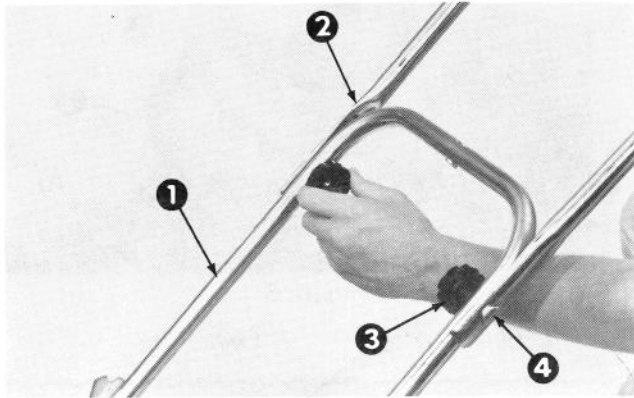

Figure 2
- Slide upper handle over lower handle and align holes. Secure both sides with handle screws and knobs being sure the knobs are on the inside (Fig. 2).